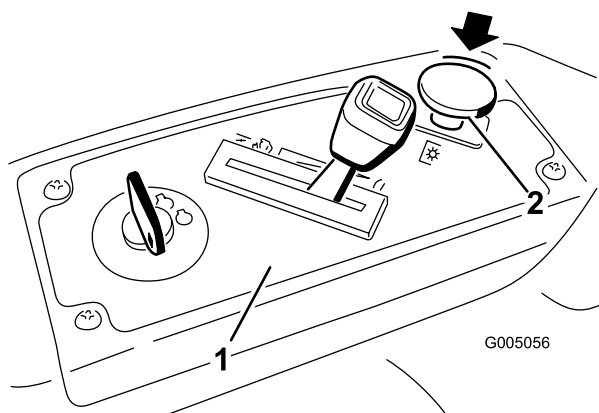

Figure 15
2. Disengage the blades by moving the blade control switch to Off (Figure 15).